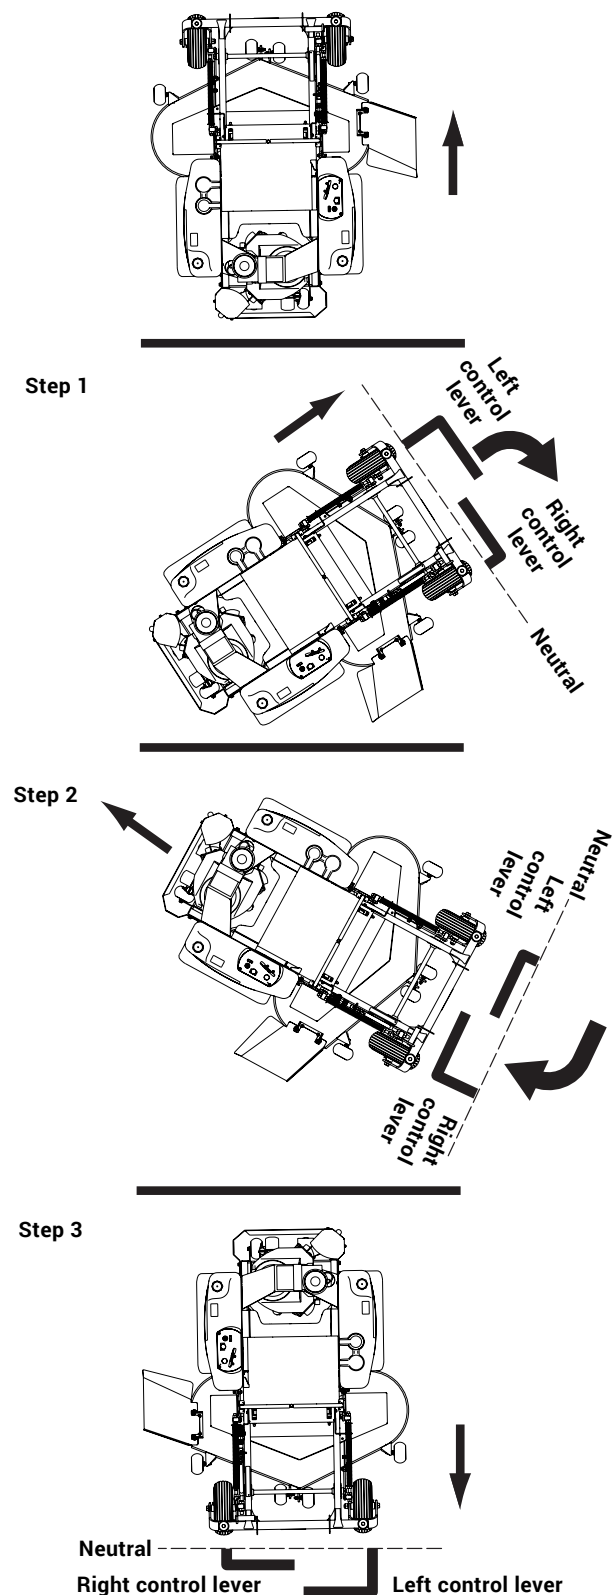

Figure 3-13
1. Move the left steering control lever farther forward from neutral than the right steering control lever and start the turn. Figure 3-13
2. Next, pull back on the steering control levers until they pass neutral and the machine starts to go rearward. Figure 3-13
3. Pull the right steering control lever farther rearward from neutral than the left steering control lever until the rear of the machine pivots around. Figure 3-13
4. Then, push the steering control levers forward until they both pass neutral and the machine starts to go forward. Figure 3-13
5. Push the left steering control lever farther forward from neutral than the right steering control lever and finish the turn. Figure 3-13